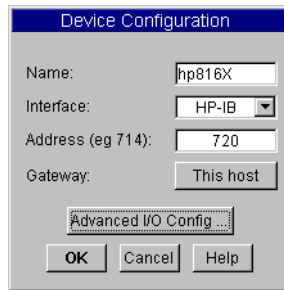

Figure 9 Device Configuration
- 2 Double-click on the Add button to bring up the Device Configuration screen, see Figure 9 on page -258.